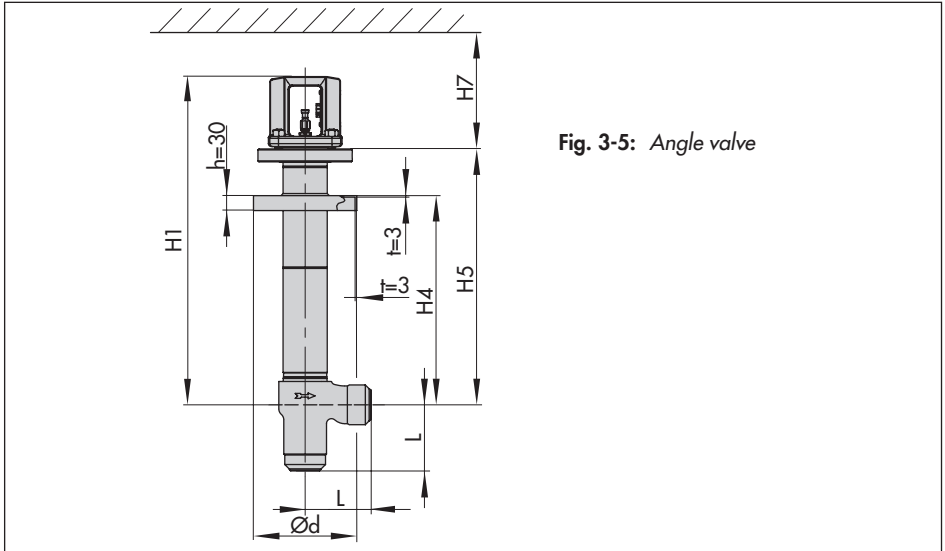

Fig. 3-5: Angle valve
**Table 3-6:** Dimensions of angle valve with stainless steel body, Class 300 (Fig. 3-5)
**Table 3-8:** Dimensions of angle valve with stainless steel body, Class 600 (Fig. 3-5)